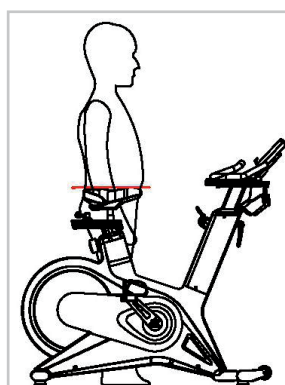
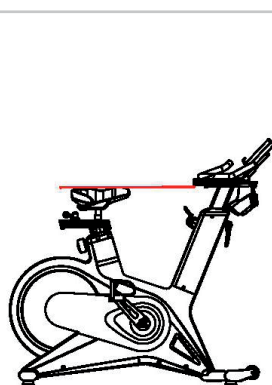

FIGURE 4
FIGURE 5
1. Standing upright next to the bicycle, adjusting the bicycle cushion to the buttocks position. As shown in Figure 4.
2. Adjust the height of the handle so that the lowest part of the handle is the same height as the seat cushion. As shown in Figure 5.
3. If choose MANUAL, press the MODE button to enter MANUAL function. If press START button, then it starts counting sport directly, all the calculated values will be counted up (as Figure 4). Or you can press UP and DOWN to adjust LOAD level; If press MODE to set TIME (Figure5), setting sequence is TIME -> DIST -> CAL -> PULSE (as Figure 5~8) which can be set cyclically. After setting, press START button to start motion state.